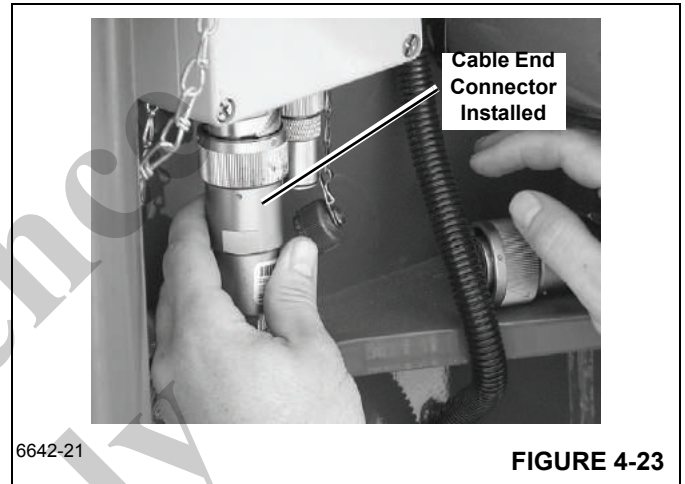

FIGURE 4-23
- c. Install cable end connector from jib where dummy plug was removed Figure 4-23.